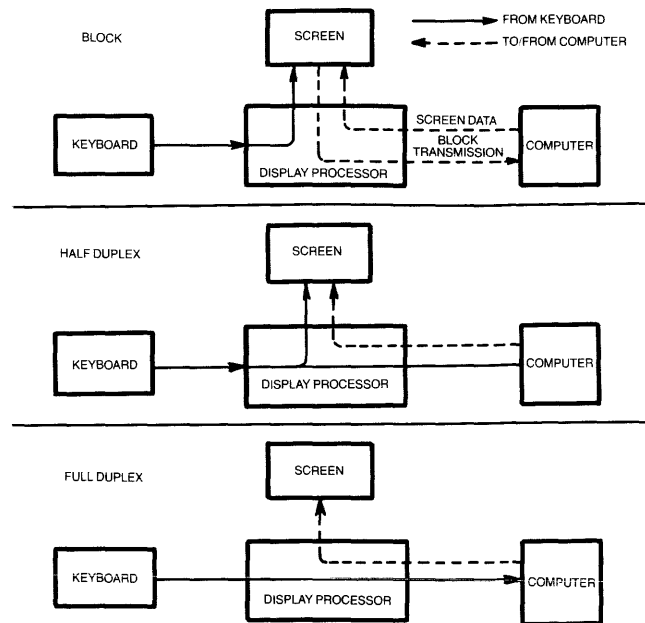

Figure 3–2 Communication Modes
available are block, half duplex (conversation), and full duplex (conversation). The communications flow caused by these modes are illustrated in Figure 3–2.
**3.4.2.2 Conversation Mode**—In this mode, two-way transmission occurs continuously between the screen and the computer. You can either send the information to the computer *at the same time it is displayed on the screen*, or you can send it to the computer and the computer will echo back the information on the screen. (The time needed to echo back the information is so short it will *seem* to happen simultaneously.) Regardless of when you send data, the terminal can always receive information from the computer. When the information is displayed simultaneously with the transmission, it is called “half duplex.” When the information is sent first to the computer and echoed back to the terminal, it is “full duplex.” Refer to Figure 3–2 for a diagram of the information flow.